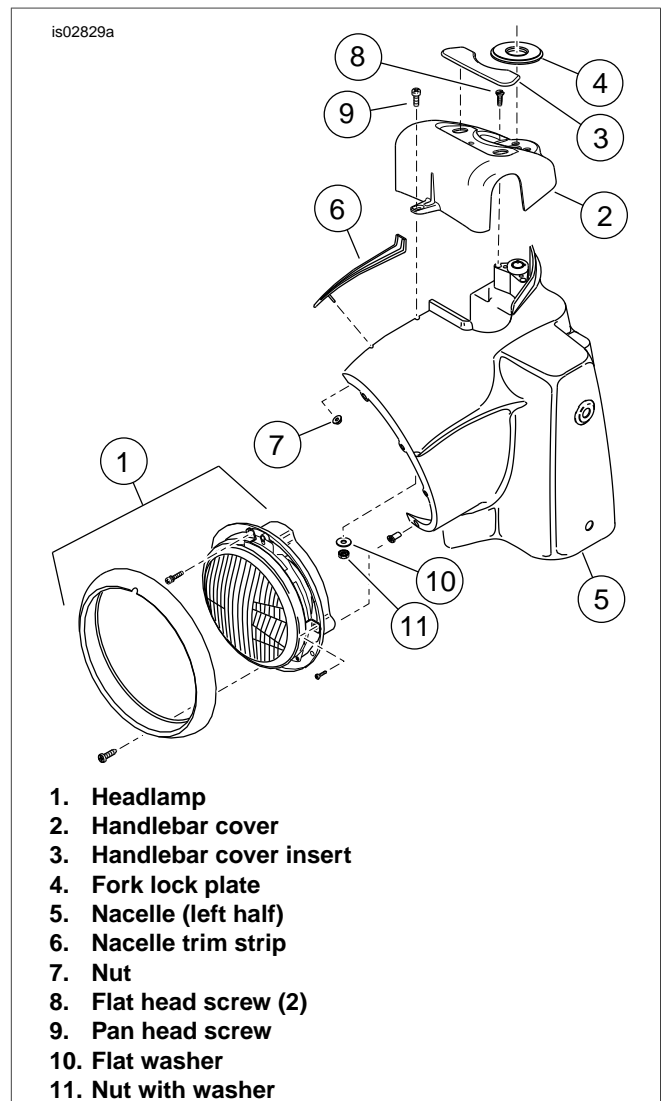

Figure 5. Nacelle, Headlamp and Handlebar Cover (FLHR/C Shown)
12. See Figure 5. Reach inside the headlamp nacelle (5), remove the flange nut (7) to release the trim strip (6) at the top of the nacelle.
For Australia, Brazil, England, Europe and Japan: See Figure 5. The flat head screws (8) have break-away heads and are not easily removable. To remove screws with break-away heads, make a pilot hole in the top of each screw with a center punch and back out the screw with a 1/8 in (3 mm) left-hand drill bit.